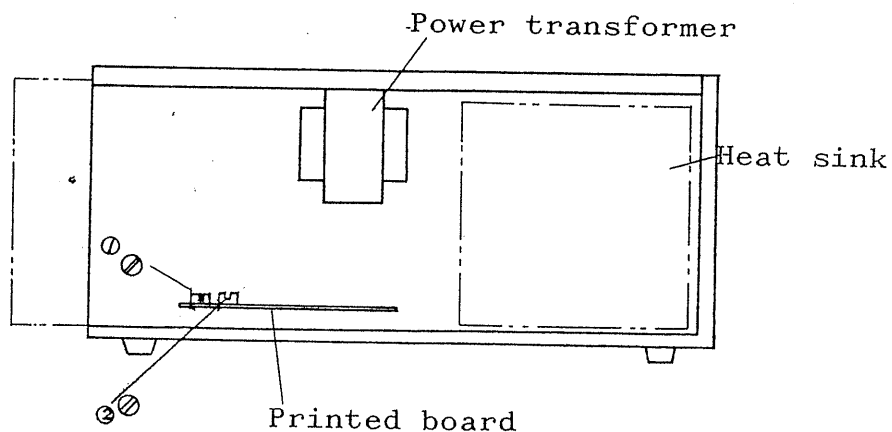

Fig. 9
Turn the voltage control knob on the front panel fully counterclockwise, and adjust the semi-fixed resistor on the printed board (on the circuit pattern side; marked ① in Fig. 9) so that the voltage between output terminals is approximately 0 V. After conducting the maximum voltage adjustment (Item 5.2 below), readjust this voltage to be within a range of ± 0.5 V.
Turn the voltage control knob on the front panel fully clockwise, and adjust the semi-fixed resistor on the printed board (on the side more parts are located; marked ② in Fig. 9) so that the voltage between output terminals is the rated maximum voltage.